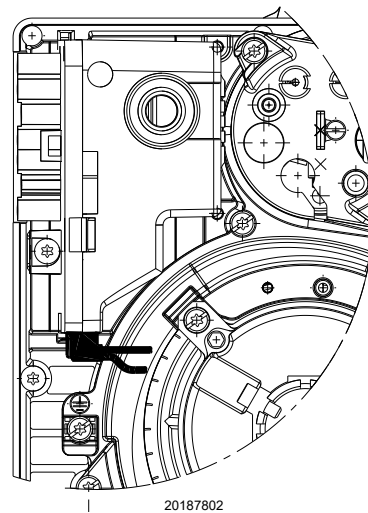

Fig. 17
- Check proper insertion of connection connectors according to the symbols shown on the bottom of the flame control equipment: make sure that the connectors are fully inserted by pushing them all the way in, each in its relevant position. All connectors must have the connection cables facing towards the inside of the burner (see Fig. 17).